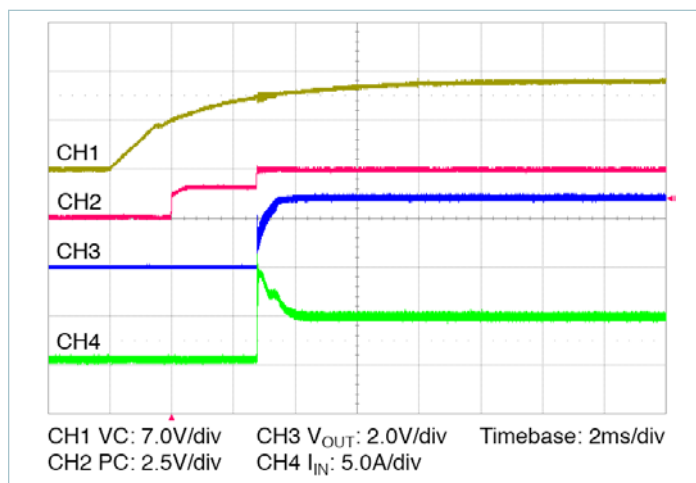

Figure 14 — Start up from application of V_C ; V_{IN} pre-applied $C_{OUT} = 16000\mu\text{F}$
- **Stand-alone operation (VC applied after V_{IN}):** In this case the VTM output will begin to rise upon the application of the VC voltage (See Figure 14). The Adaptive Soft-Start Circuit may vary the output rate of rise in order to limit the inrush current to its maximum level. When starting into high capacitance or a short, the output current will be limited for a maximum of 1200μs. After this period, the Adaptive Soft-Start Circuit will time out and the VTM module may shut down. No restart will be attempted until VC is re-applied or PC is toggled. The maximum output capacitance is limited to 16000μF in this mode of operation to ensure a successful start.